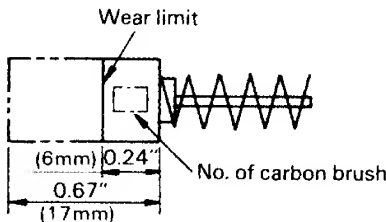

Fig. 4
3. Inspecting the carbon brushes (Fig. 4)